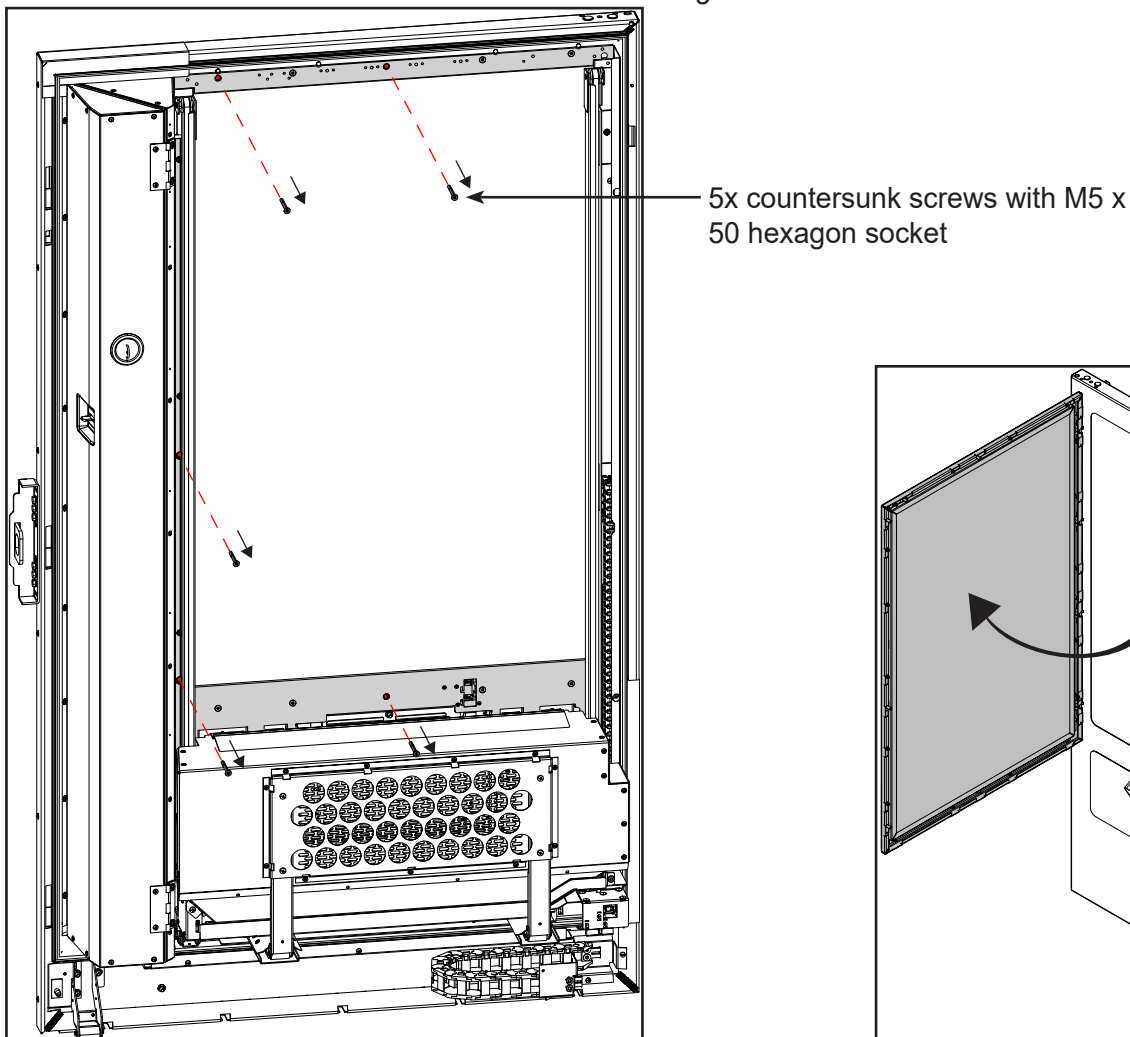

Figure 11
4. Remove 5x countersunk screws with M5 x 50 hexagon socket (Fig. 11).